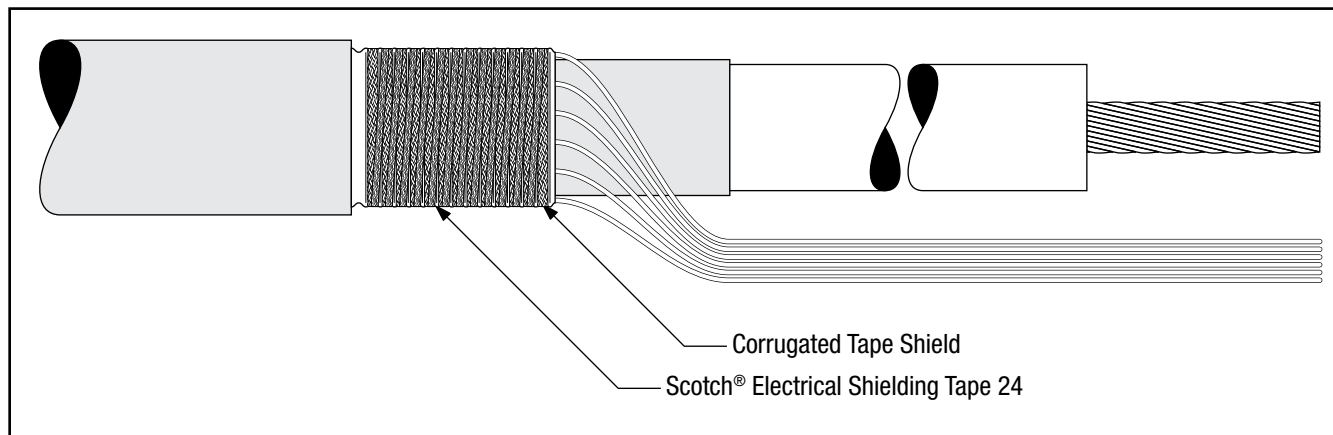

Figure 2
- 2.1 For longitudinally corrugated (LC) cables, fill the valleys on the longitudinally corrugated shield with several wraps of Scotch® Electrical Shielding Tape 24. Half-hitch to tie off. (*Figure 2*)